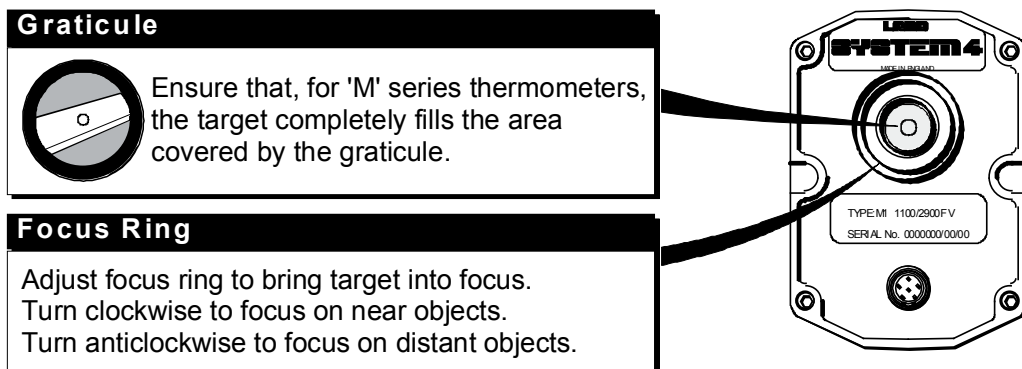

Fig. 4-1 Location of Focus Ring and Graticule on rear face of thermometer
- 2) Remove the eyepiece protection cap on the rear face of the thermometer to reveal the Focus ring (See Fig. 4-1).